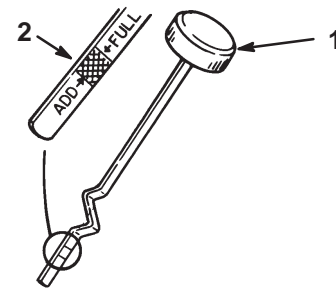

Figure 17
3. Unscrew the oil dipstick and wipe the metal end clean (Fig. 17).